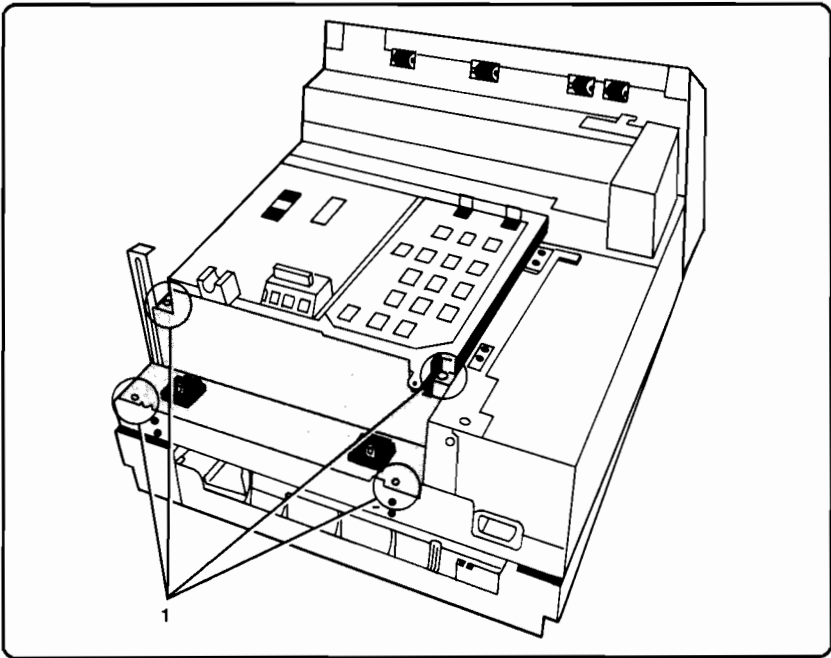

Figure 6-28. Rear Support Shield Removal
4. Remove the screws (4) with star washers securing the Rear Support Shield, and remove the shield (see Figure 6-28, callout 1).
4. Remove the Rear Support Shield (see Figure 6-28).